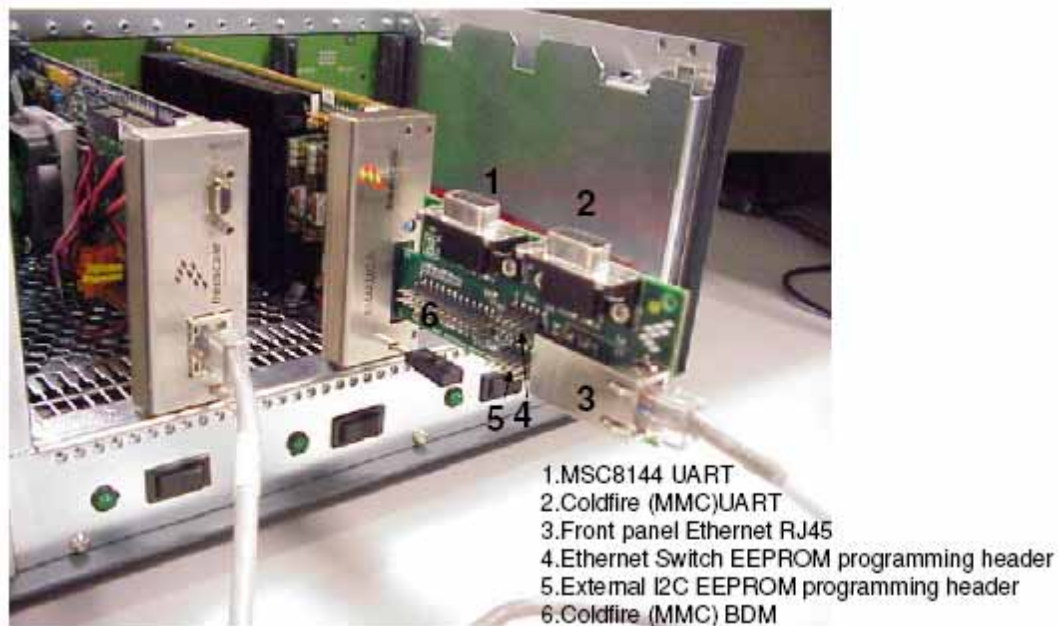

Figure 8. Expander Card Features
- J1 is the expansion connector, designed to offload programming headers and test interfaces from the board. An expansion card, Figure 8, can be fitted to the connector, giving access to the following: